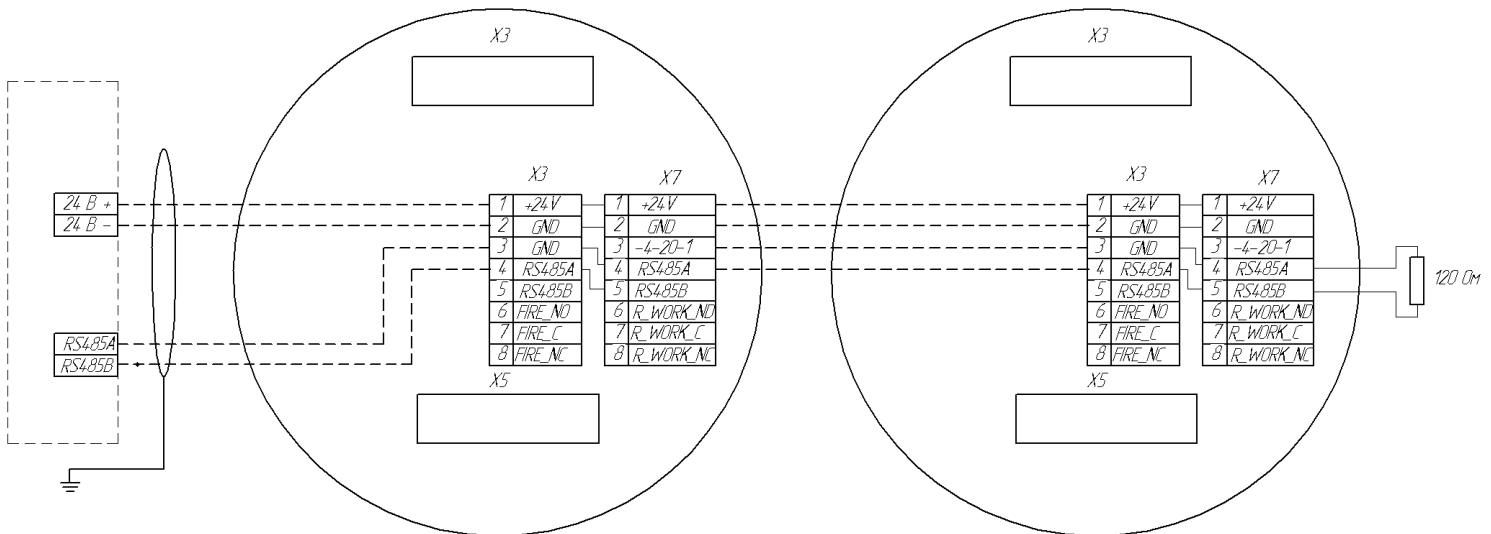

Figure 8 – Connection diagram for two explosion-proof detectors EEx via RS-485 interface
- Figures 8 and 9 show diagrams of connecting two detectors to fire alarm control system via RS-485 interface with and w/o terminal box;